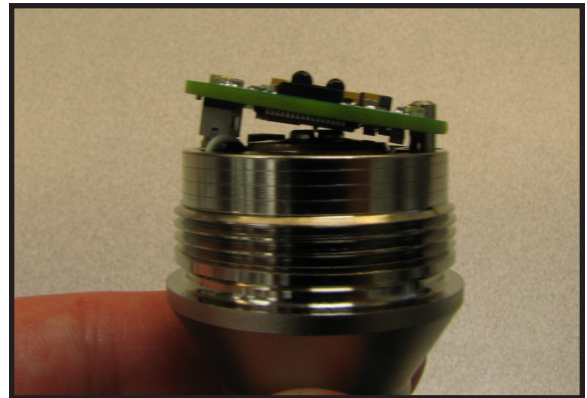

Figure 9: Skewed Circuit Board on Post
- 3.2) While pressing down on the board, tilt the side opposite the post up to create temporary tension to keep board in place. See Figure 9. The board should light up and beep when it touches the battery.